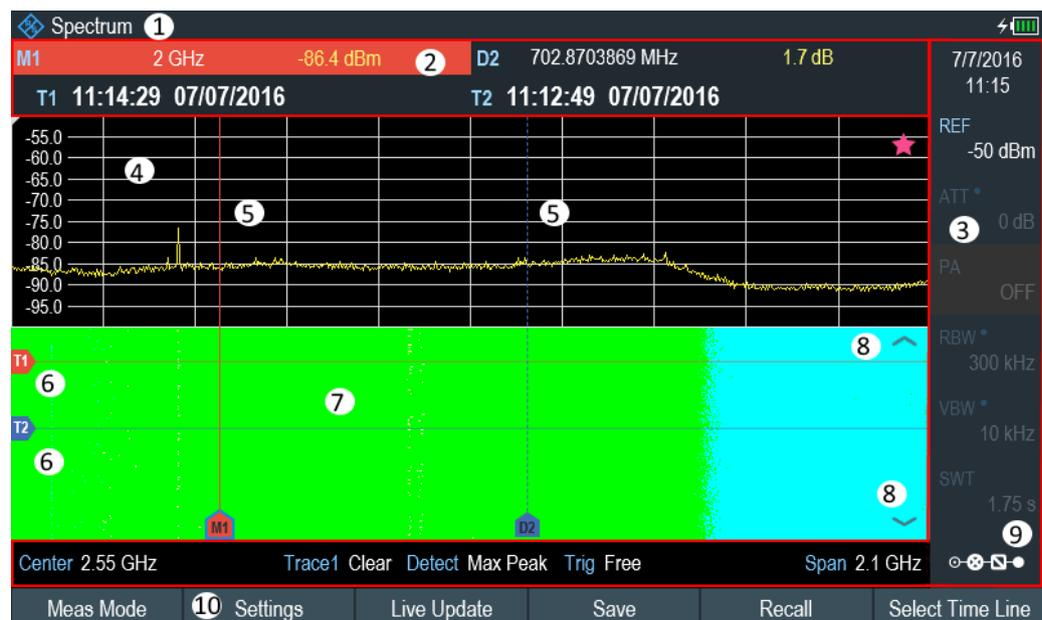

Figure 6-2: Screen layout for the spectrogram
5. To evaluate the measurement result, scroll up and down on the spectrogram scrollbar icon (see item 8 of Figure 6-2) to the frame that you are interested to view.